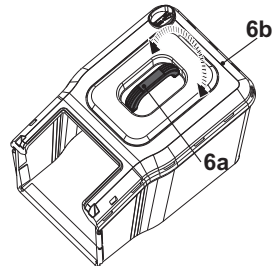

Fig. 6
2. The carry handle (6a) is already preassembled on the top cover (6b) and its position is rotatable to fit the intended use (Fig. 6).
3. The grass catcher (6) is ready for use.